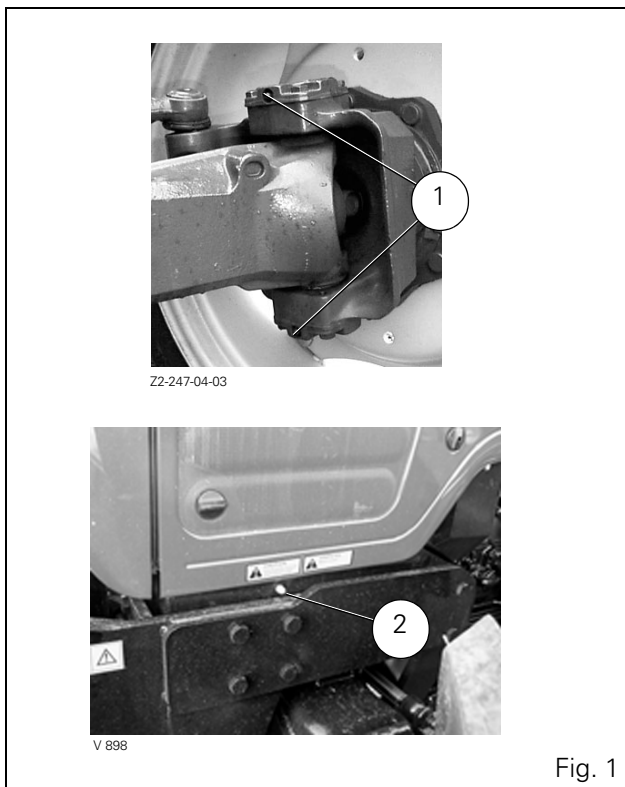

Fig. 1
1. Front axle pivots (4WD) (Fig. 1)